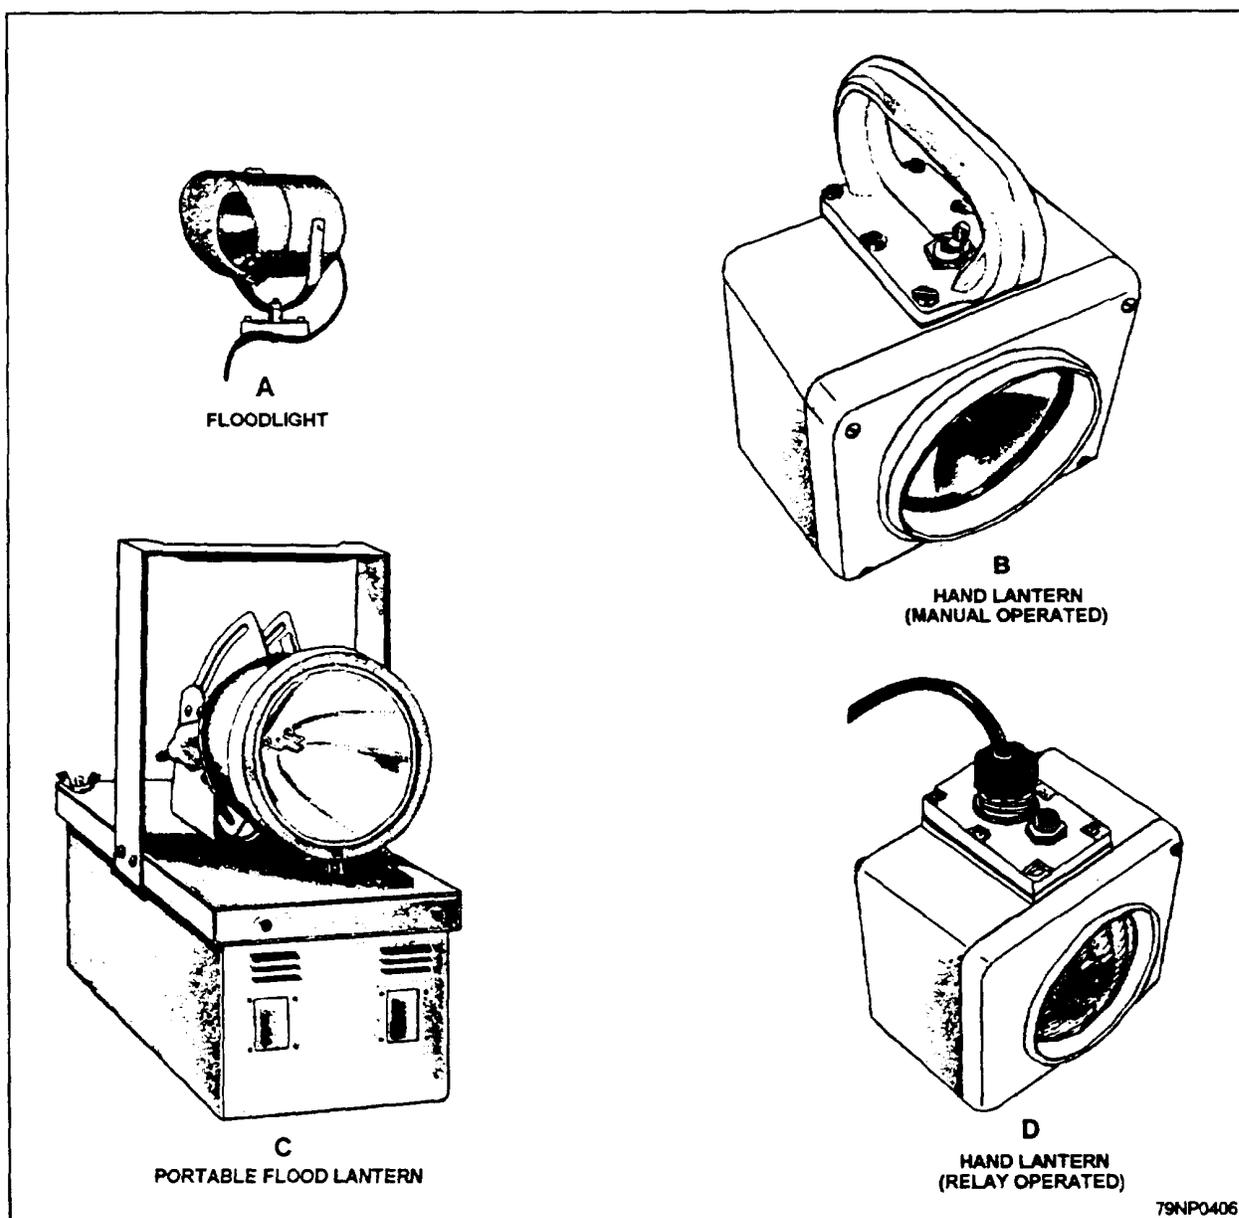

Figure 4-34.—Special lights.
Special lights are provided aboard ships for various uses. These lights include flashlights, floodlights, hand lanterns, and flood lanterns (fig. 4-34). Lights and lighting fixtures are identified by NAVSHIPS symbol numbers (1 through 399), military standard (MS) numbers, national stock numbers (NSN), military specification numbers, or NAVSHIPS drawing numbers. The NAVSHIPS Standard Electrical Symbol List (NAVSEA S0300-AT-GTP-010/ESL, formerly NAVSEA 0960-000-4000) lists the lights and lighting fixtures in current use on naval ships. Fixtures are listed
The white floodlight (fig. 4-34, view A), symbol 300.2, consists of a splashproof housing equipped with a rain-shielded hinged door secured with a latch. The 300-watt lamp is a sealed-beam type. The lamp housing is trunnioned on a yoke, which in turn is mounted on a shock-absorbing base. The light is held in elevation by a clamp on the yoke. Train positioning is accomplished by friction within the shock-absorbing base. Each floodlight is furnished with a three-conductor cable (including a green lead to ground the metal housing) for connecting into a lighting circuit.
The manually operated portable lantern (fig. 4-34, view B), consists of a watertight plastic case containing two 6-volt batteries connected in parallel. It includes a sealed-beam lamp, rated at 5 volts, but operated at 6 volts (when the batteries are new) to increase the light output. A rigid handle is secured to the top of the case. The lantern is operated by a toggle switch with the lever positioned near the thumb for ease of operation. When the batteries are new, the lantern can be used continuously for about 8 hours before the light output ceases to be useful.
top of the lantern case (fig. 4-34, view D). The 115-volt ac version is identified by symbol 101.2. Symbol 102.2 identifies the 115-volt dc type. A three-conductor cable (including a green conductor to ground the relay metal frame) is provided for the connection to a lighting circuit. **THE RELAY-CONTROLLED LANTERN MUST ALWAYS BE INSTALLED WITH THE RELAY UPRIGHT.** This specific arrangement of the relay prevents a fire hazard, caused by a chemical action of the electrolytic paste leaking from the battery case to the relay housing as the battery is being discharged (operated).
The NAVSEA symbol number 105 portable flood lantern (fig. 4-34, view C) consists of a sealed-beam lamp enclosed in a built-in lamp housing equipped with a toggle switch. The lamp housing is adjustable, mounted on a drip-proof, acid-resistant case.